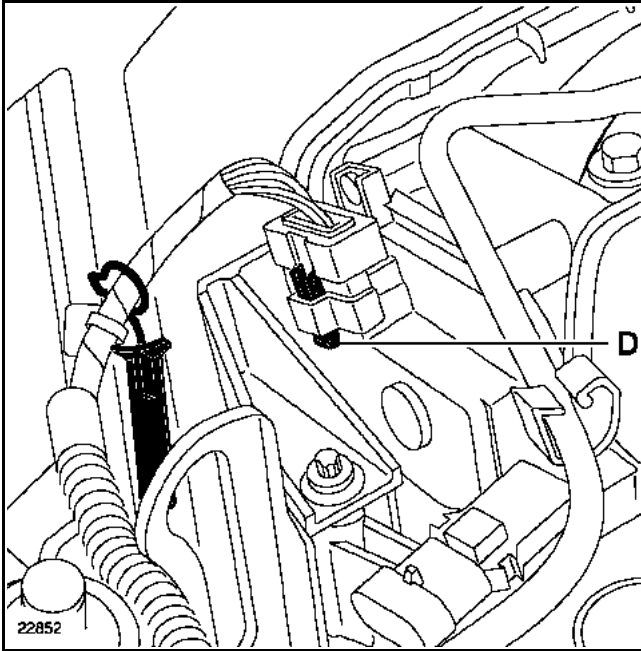

Fig. 2
- Confirm locking by pressing on the connector locking lug (D) (**Fig. 2**):
- If the connector is incorrectly positioned, the locking lug (D) (**Fig. 2**) is jammed against the throttle body locking tab. If this is the case, disconnect the connector and then reconnect (check that the seal is correctly positioned).